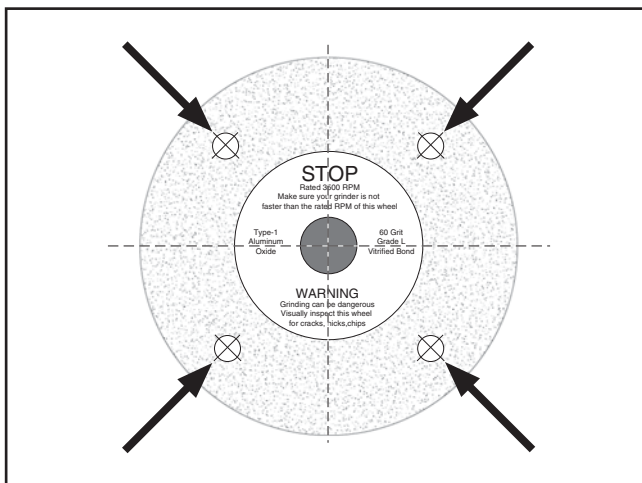

Figure 15. Tapping locations when performing a ring test.
3. At the spots shown in **Figure 15**, gently tap the wheel with a light non-metallic device such as the handle of a screwdriver or a wooden mallet.